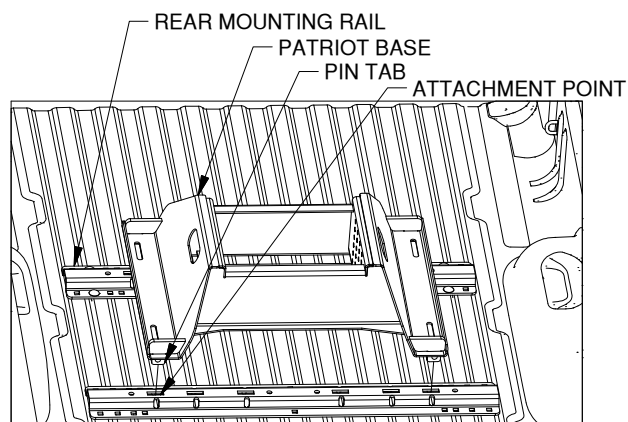

Figure D3: View into truckbed looking back at tailgate.
2. **Position the forward mounting rail.** For this step the base which will be used in the mounting rails is required. Place a mounting rail into the truck bed in front of the rear mounting rail. Place the base over the rail attachment points and carefully lower it until the pin tabs pass through the attachment points on the rear mounting rail. Attach the forward mounting rail to the forward mounting points on the base. The base should rest flat against the top of the rails. See Figure D3. With the base still attached ensure that the forward rail is centered in the truck bed.